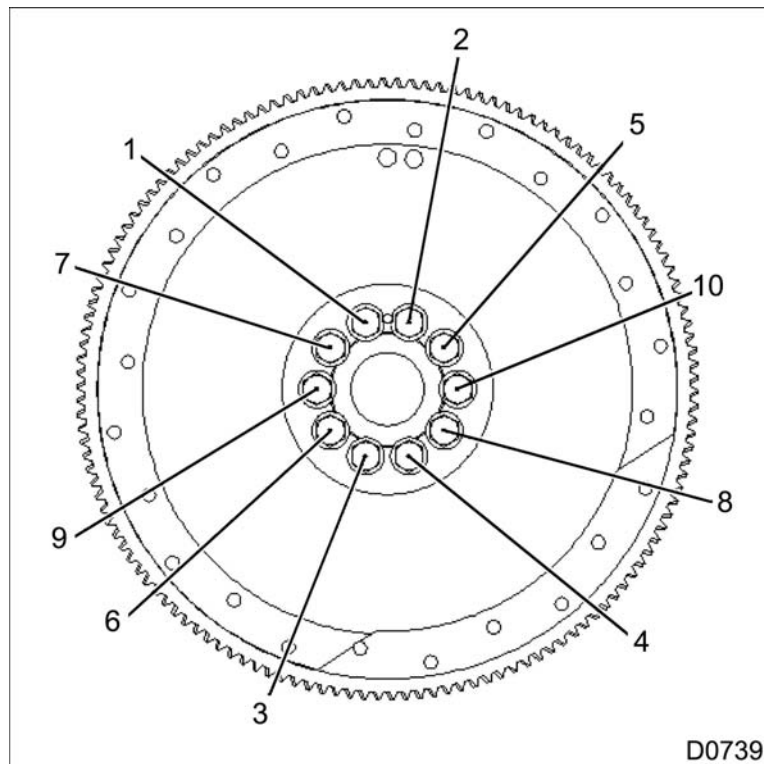

Figure 440 Flywheel torque sequence (typical)
3. Evenly tighten all flywheel bolts to special torque (page 305) using the torque sequence illustration (Figure 440).
Flywheel mounting bolts (all applications) new bolts only	94 N·m (69 lbf·ft) see flywheel torque sequence (Figure 440)